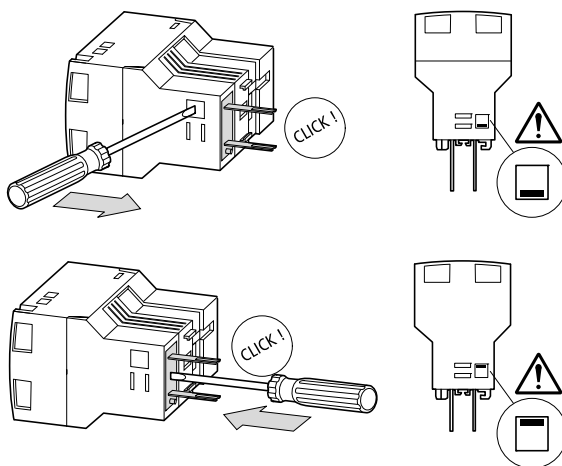

Figure 7: Assignment of SmartWire module for DILM and contactor
► Set the setting slider on the SmartWire module for the corresponding contactor (→ fig. 7).